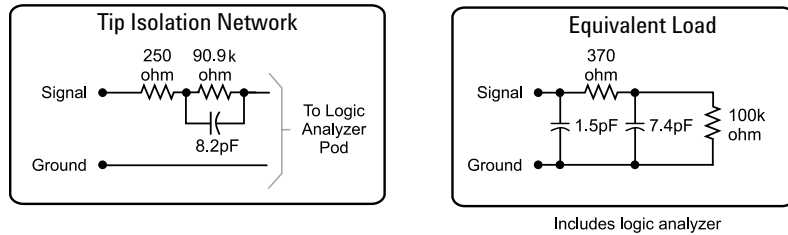

Figure 10. Probe tip isolation network and equivalent load
The standard probing system consists of IC clips, probe leads, probe housing and probe cable. Because it is passive, the standard probing system is smaller, lighter, and much easier to use than active probing systems. This passive probing system is similar to a probing system used on a high frequency oscilloscope. It consists of an isolation network (as shown in Figure 10) at the probe tip and a shielded resistive transmission line. The advantages of this system are:
- High input impedance. See Figure 10.